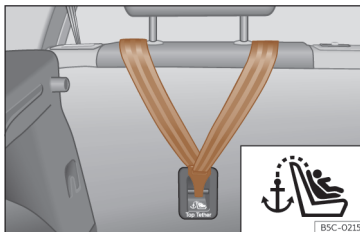
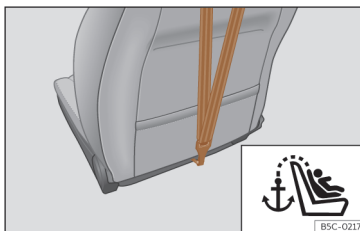

Fig. 43 Rear part of the rear seats: Top Tether belt anchor.
Fig. 44 Rear of front passenger seat backrest: Top Tether belt anchor (not available in all markets/versions).
is located on the rear of the rear seat backrest and of the front passenger seat backrest¹⁾ (identified with the symbol ) and provides better retention >>> **Fig. 43**, >>> **Fig. 44**.
- Slide the belt and secure it properly with the anchor on the rear seat backrest >>> **Fig. 43**, >>> **Fig. 44**.